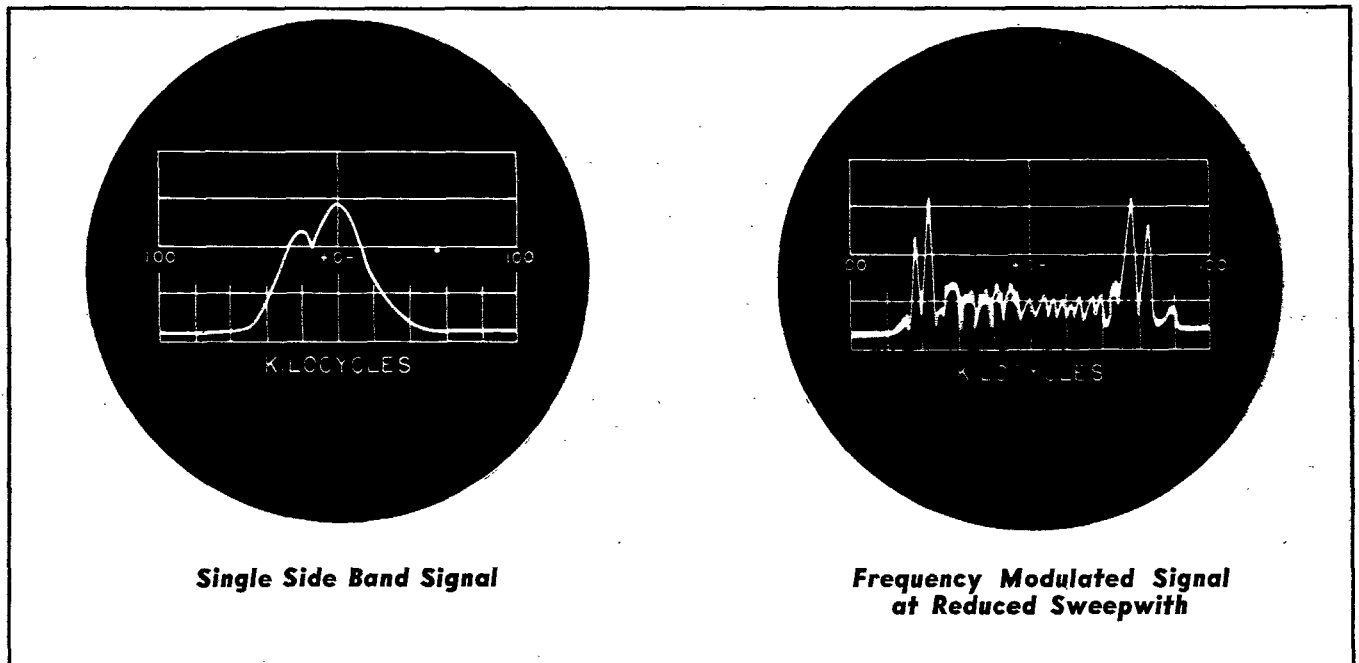

Figure 9. Typical Patterns of Single Side Band and FM Signals
(3) *Single side-band modulation appears as two carriers of slightly different frequency.* (See below: “Signal Interferences”). Refer to Figure 9.
(5) *A speech or music modulated FM signal appears as many deflections spreading over a variable bandwidth. During periods of audio silence a single carrier appears.* Refer to Figure 9.